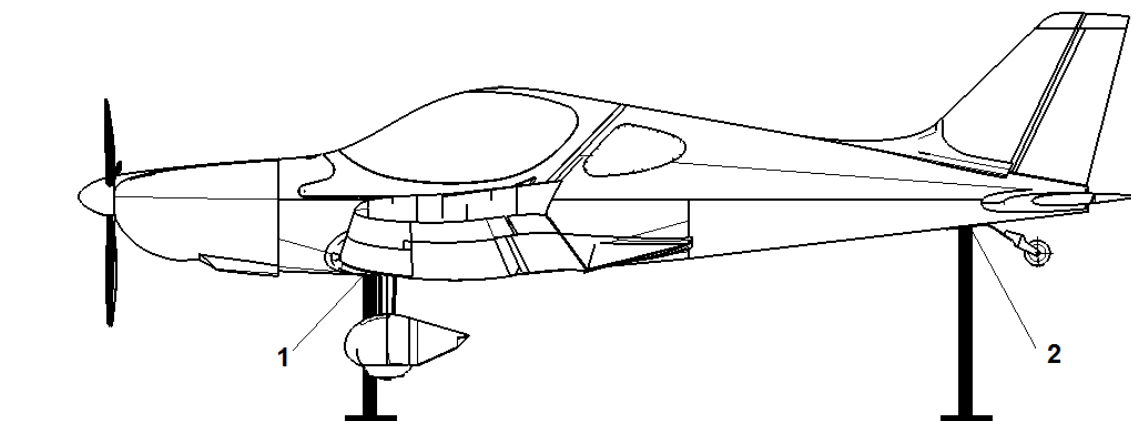

Fig. 14-1
There are three supporting points (see Fig. 14-1), two of them are under upper ends of main landing gear legs (1), third one is under the tail wheel leg (2).